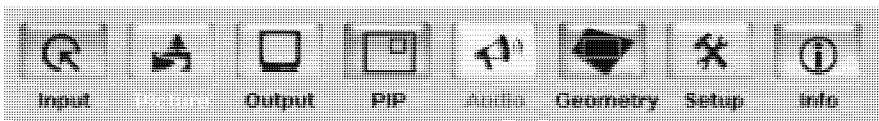

Figure 7: MENU Items
- Press the MENU front panel ON button or the MENU key on the infrared remote control transmitter (see section 8.3) to display the main MENU screen¹, which displays eight interactive icons² (see Figure 7)